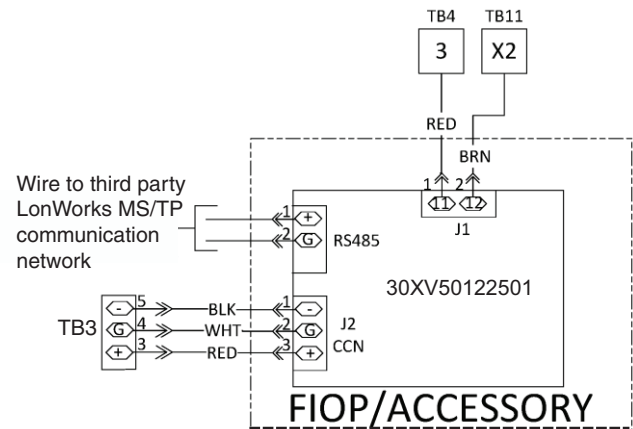

Fig. 7 — LonWorks Translator Module Wiring Diagram
2. Referring to Fig. 7, 30XVB 140-325 locate wire harness (P/N 3050119801, item #7) or for 30XVA 140-325 and 30XVA/XVB 350-500 locate wire harness (P/N 30XV50103101, item #6) in the accessory kit.
7. Referring to Fig. 7, connect black wire labeled LON/BAC J2- to the terminal marked J2- on the LonWorks Translator board.